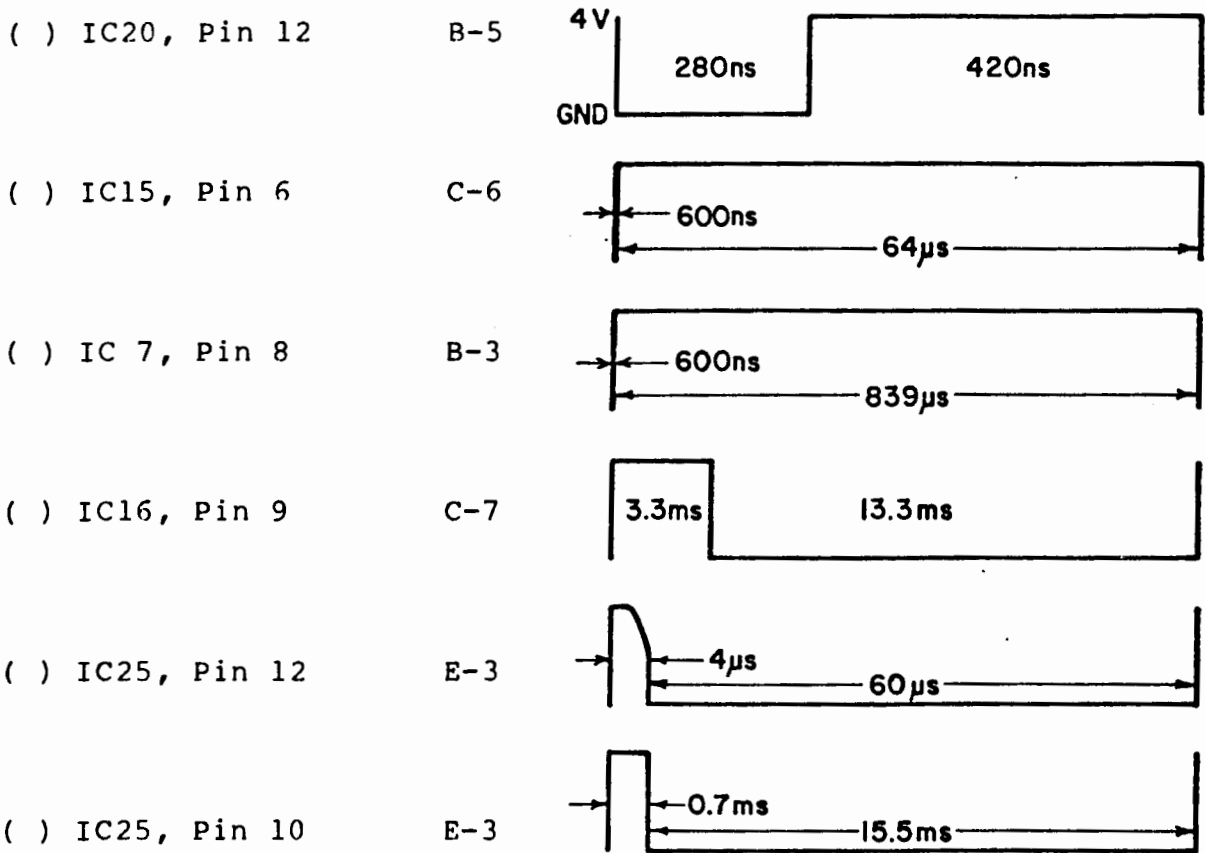

Figure 2-4. VDM-1 Timing Waveforms.
1) Refer to Section II, page II-13, Figure 2-4.
The frequency of the crystal was changed from 13.5 MHz to 14.31818 MHz. The timing waveforms on Page II-13 are obsolete, and the new correct timing waveforms are given in Figure 2-4 on page 2 of this Update. Before starting assembly, make a note on Page II-13 to refer you to page 2 of this Update.